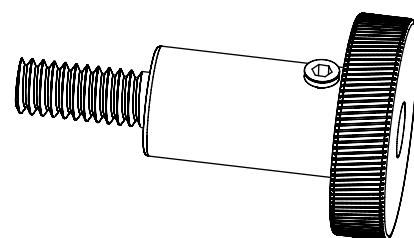

Fig 3. Alt Encoder Coupler
3) Identify Alt encoder coupler as seen in Fig. 3.